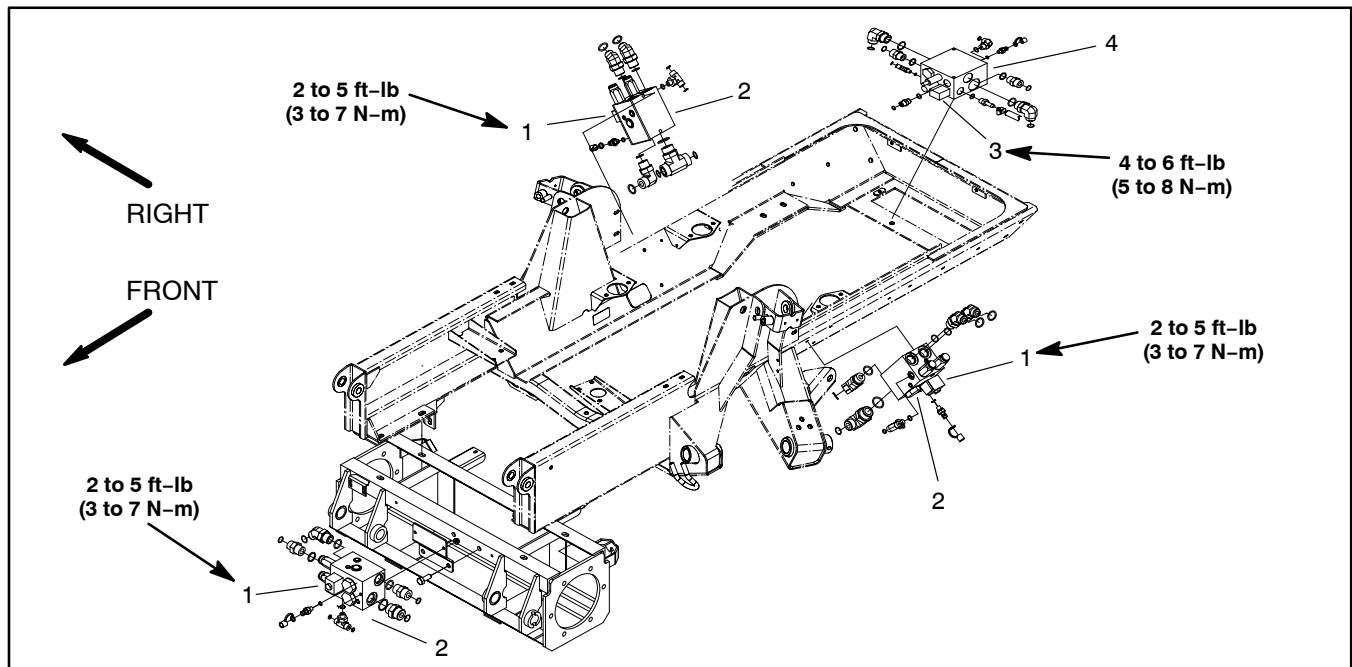

Figure 25
There are several hydraulic valve solenoids on the Groundsmaster 4000-D (Fig. 25). Testing of these solenoids can be done with the solenoid on the hydraulic valve.
3. Install **new** solenoid if necessary. Torque solenoid nut to specification identified in Figure 25. Over-tightening may damage the solenoid or cause the valve to malfunction.